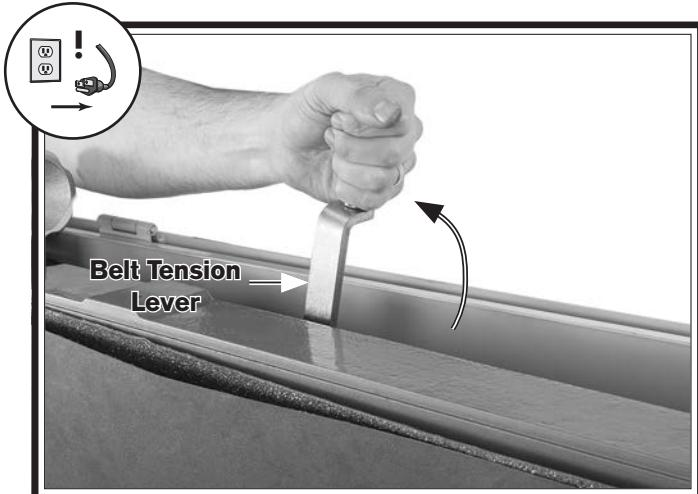

Figure 30. Moving belt tension lever to un-tensioned position.
5. Move belt tension lever up and toward contour drum, as shown in **Figure 30**.